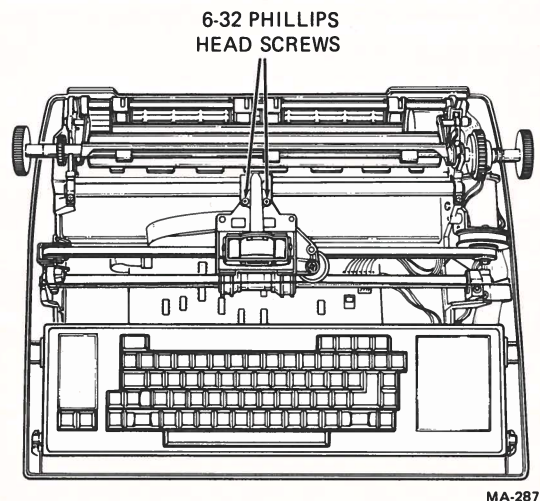

Figure 2-10 Print Head Removal
6. Remove the two (6-32) screws, spacers, flat washers and springs that secure the print head to the carriage assembly (Figure 2-10).